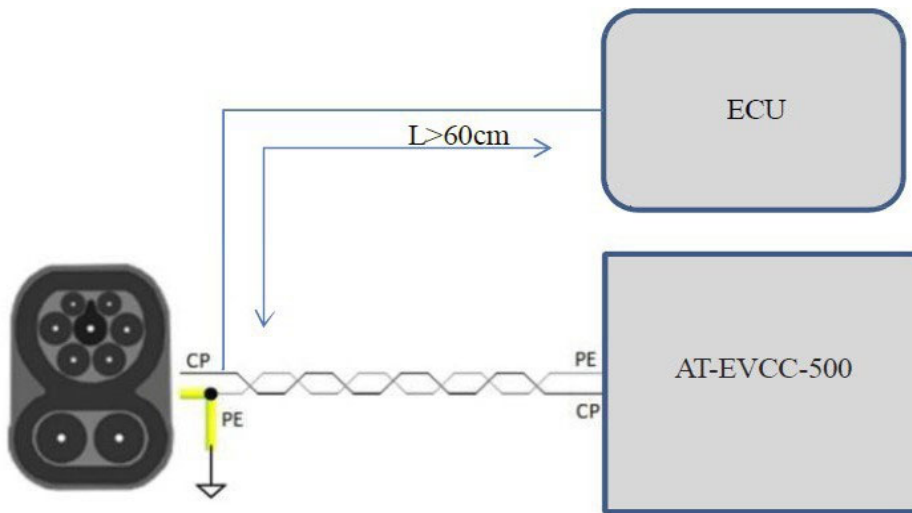

Figure 2
- ② CP&PE wiring should be kept away from noisy equipment, such as motors or high-power power supply conversion modules. If sharing CP lines with other ECUs, the distance between the EVCC device and other ECU CP lines should be greater than 60cm; Figure 2